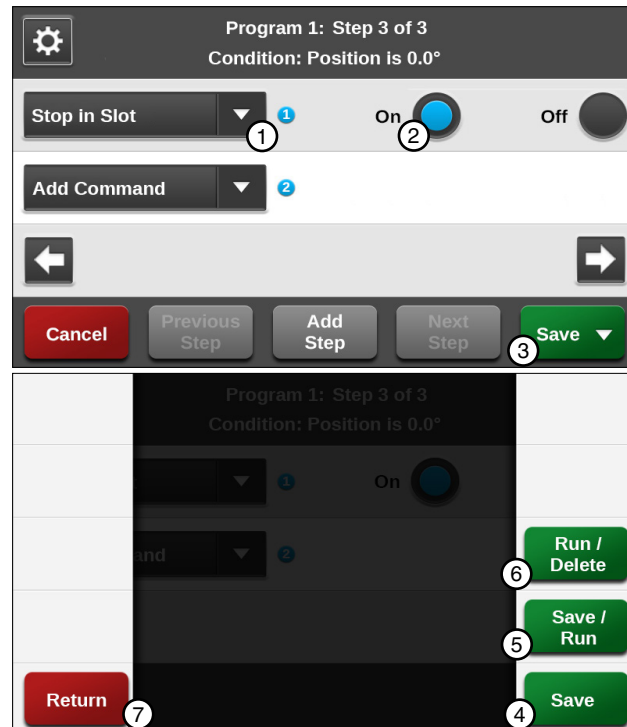

Figure 116-2 1. Stop in Slot Command 5. Save/Run
10. Finish the program by selecting one of the following. Refer to Figure 116-2.